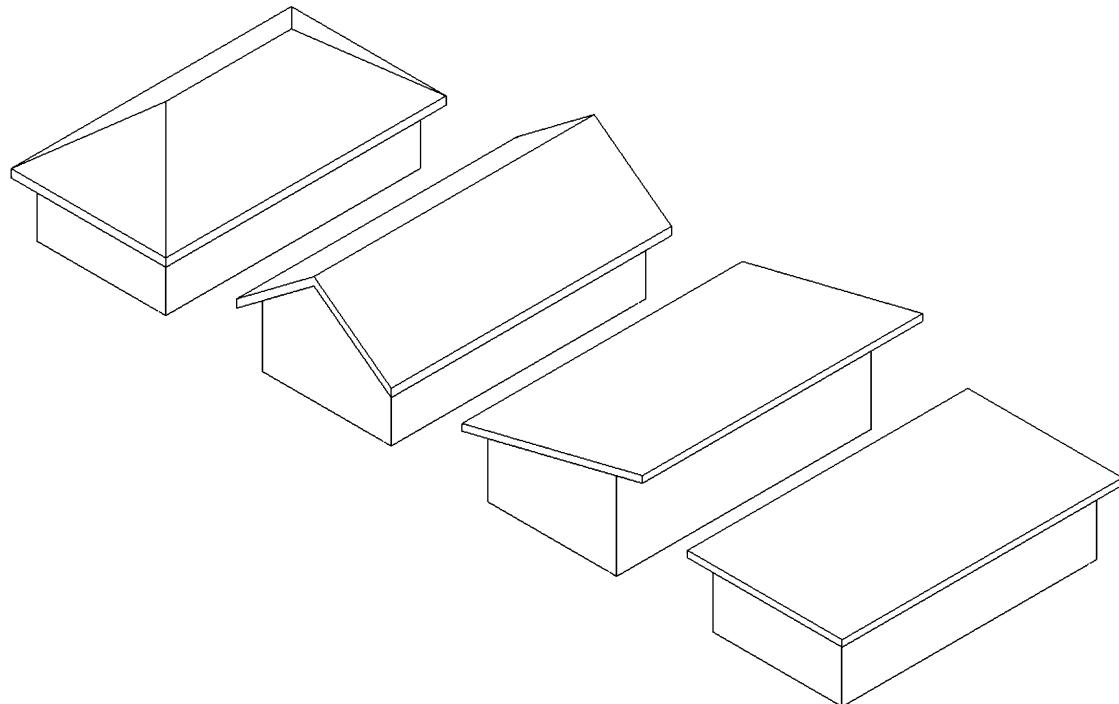

FIGURE 8-1.14 Default 3D view – flat roof
55. Also, take a look at the **Default 3D view** (Figure 8-1.14).